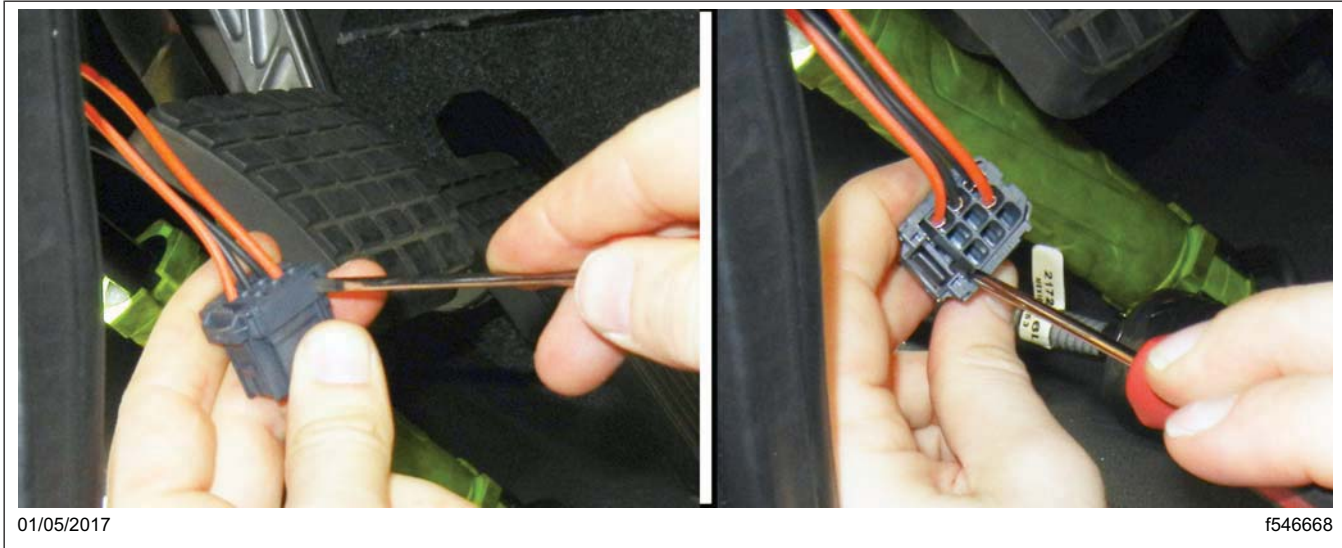

Fig. 9, Removing the Terminal Lock on Connector 52B
- 11. Unsnap the terminal lock. See Fig. 9.